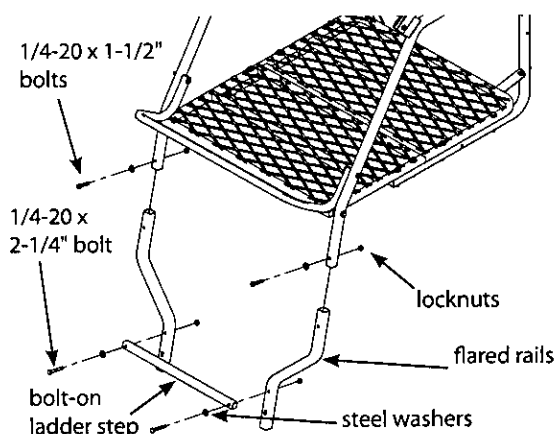

Figure 9
11. Insert the two side rails into the flared rails (410089). Secure using (2) provided 1/4-20 x 1-1/2" bolts, locknuts and steel washers. **SEE FIGURE 9.**
12. Attach the bolt-on ladder step (410034) to the front side of flared rails using (2) provided 1/4-20 x 2-1/4" bolts, locknuts and steel washers. **SEE FIGURE 9.**